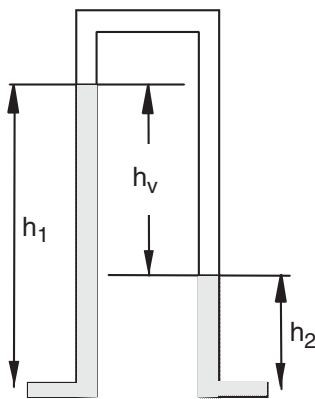

Fig. 3.1 Measuring the head loss h_v at the water manometer
The **head loss** h_v is adjusted using the drain valve (2) and measured on the water manometer (4) (see Fig. 3.1).